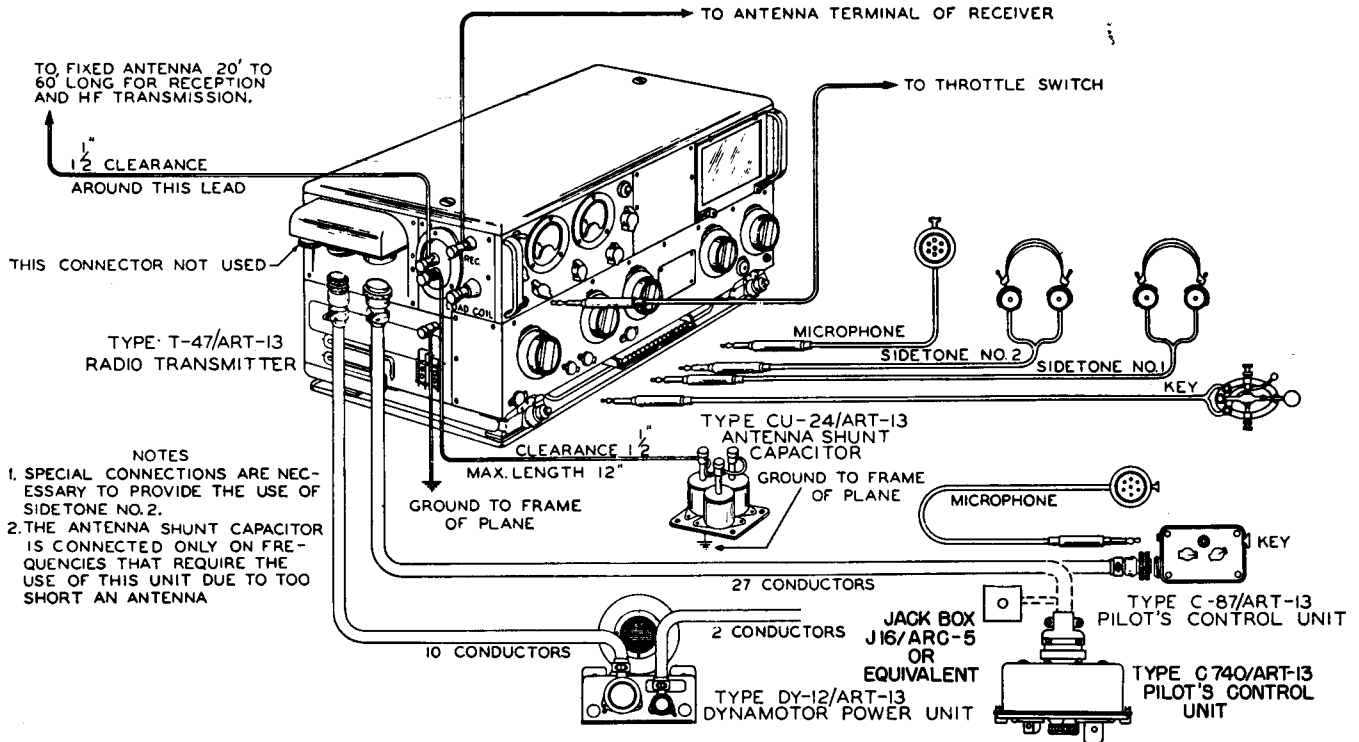
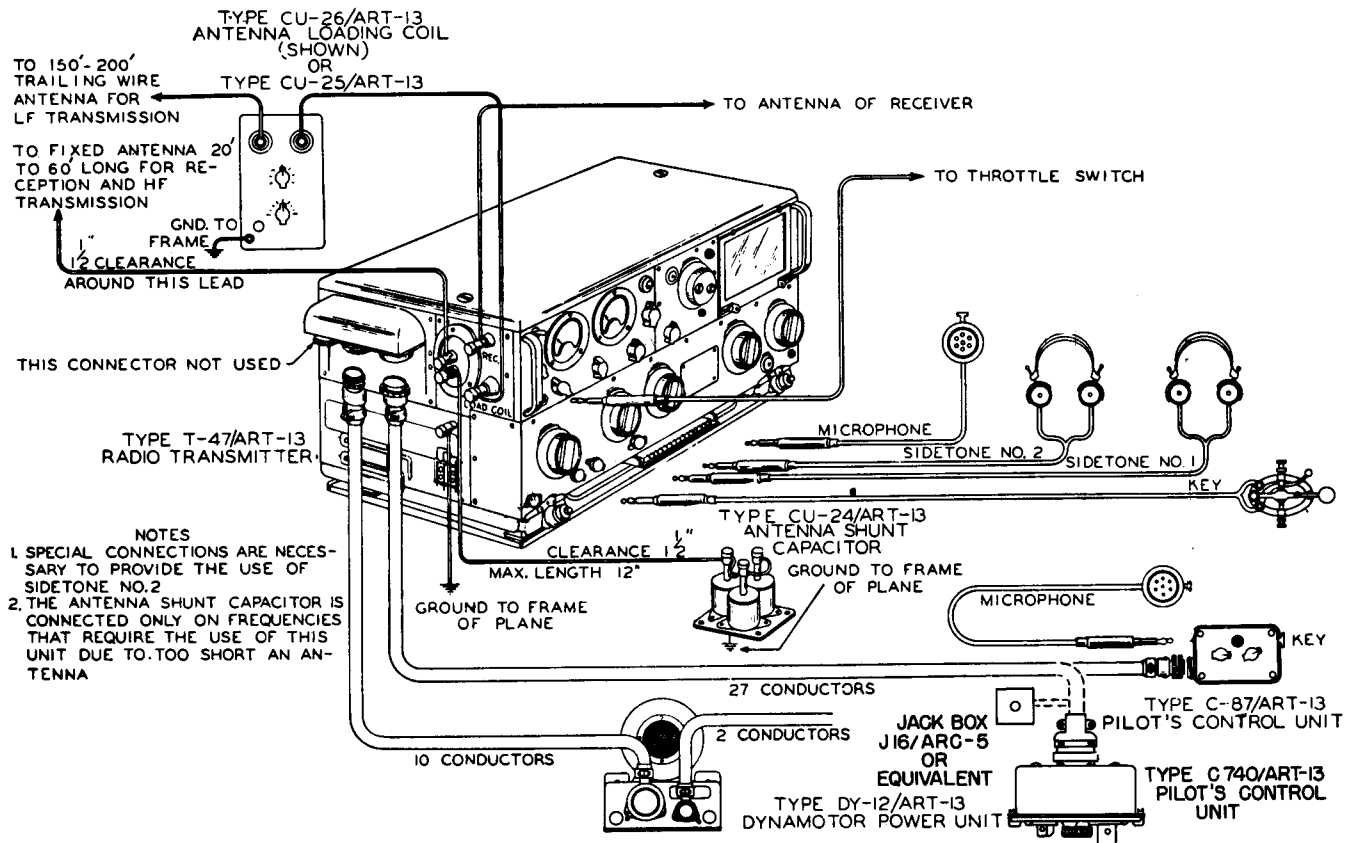

Figure 2-1. Model AN/ART-13 High Frequency Installation Diagram
Figure 2-2. Model AN/ART-13 Installation Diagram Including Special Low Frequency Units
(1) Figure 2-2. shows an AN/ART-13 installation with all of the accessories necessary for transmission on any frequency within the frequency range of the transmitter and with the transmitter control from either the transmitter panel or from a remote position. If the fixed antenna has sufficient capacity the Type CU-24/ART-13 Antenna Shunt Capacitor Unit may be omitted from the installation. Figure 2-1. shows a high frequency AN/ART-13 installation which may be used if low frequency (200 kc to 1500 kc) emission is not required.
(2) The first step in preparing the transmitter for installation is to check the vacuum tubes and calibration crystal for placement in the proper sockets. All tubes and crystal unit can be installed from the top of the transmitter unit. To remove the transmitter cabinet cover, loosen the cover holddown screws and lift the cover upward.
(2) Cut the wires to the proper length for the installation involved. Allow enough additional length for each wire so that no wire is tight enough to interfere with the action of the shockmounts or to damage the connectors.
i. CONNECTIONS.—After all units have been mounted, the installation may be completed by making the power, inter-unit and antenna connections. Refer to the installation diagrams, figure 2-1 and figure 2-2, page 2-0.
(1) POWER CONNECTIONS.